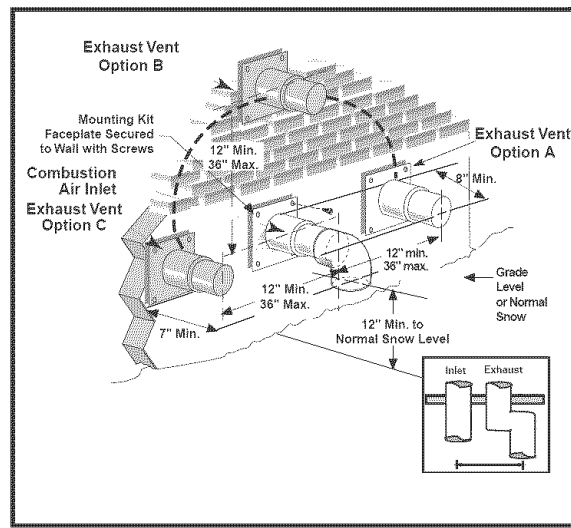

Figure 19. Exhaust and Combustion Air Pipe Clearances
Vent and combustion air intake terminations must be as shown in Figure 19 unless the concentric vent termination kit is used.
**Ensure that the combustion air vent and the exhaust vent are configured as shown in Fig. 19. Improper vent termination can cause recirculation of the flue gases. This may result in furnace vibration. In severe cases, the furnace will cycle, due to the intermittent contact between the flame and the flame sensor. If you note these oscillations occurring, check the vent configuration. Make sure that the exhaust vent does not have a 90 degree termination.**
4. Insure the combustion air inlet pipe has a 90 degree termination elbow, and is pointing downward as shown in Figures 19 & 20.